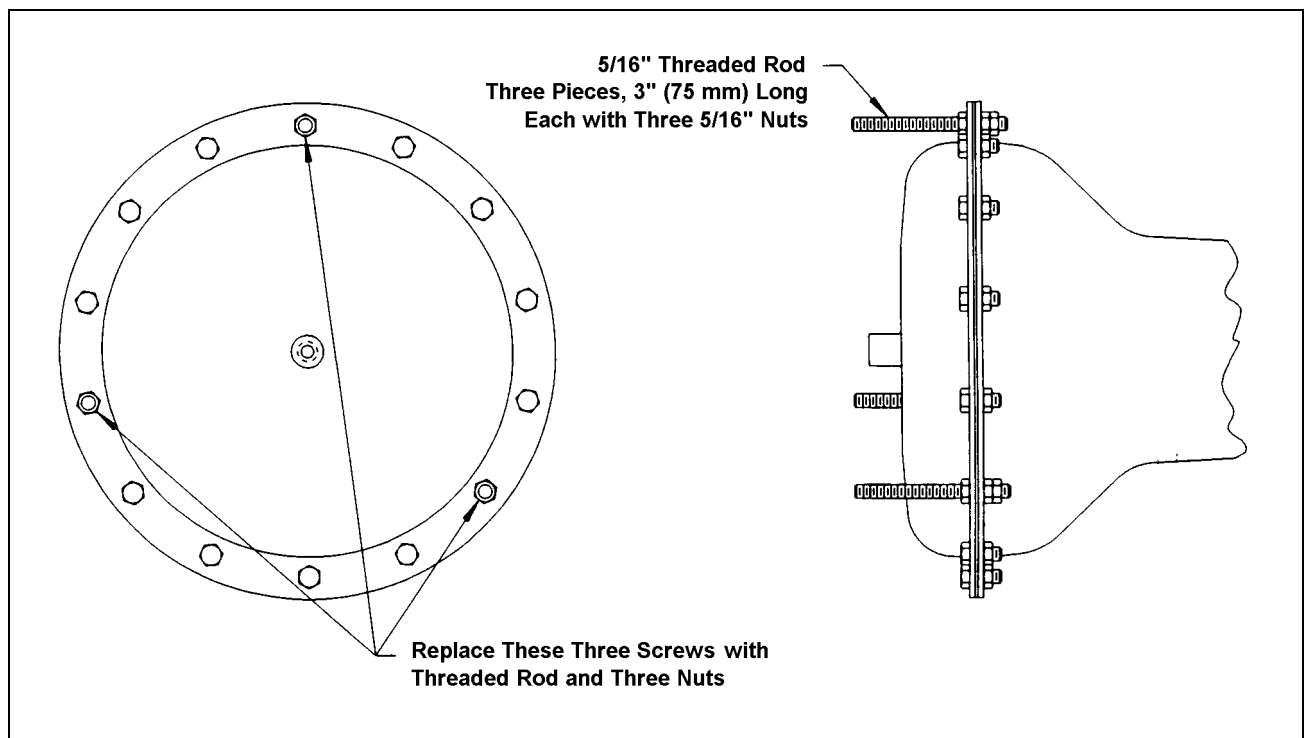

Figure 4—Stud Requirements For Diaphragm Cover Removal
1. Remove three screws (B2) and nuts (B3) from the diaphragm cover (B1). The three screws removed must be equally spaced as shown in Figure 4.